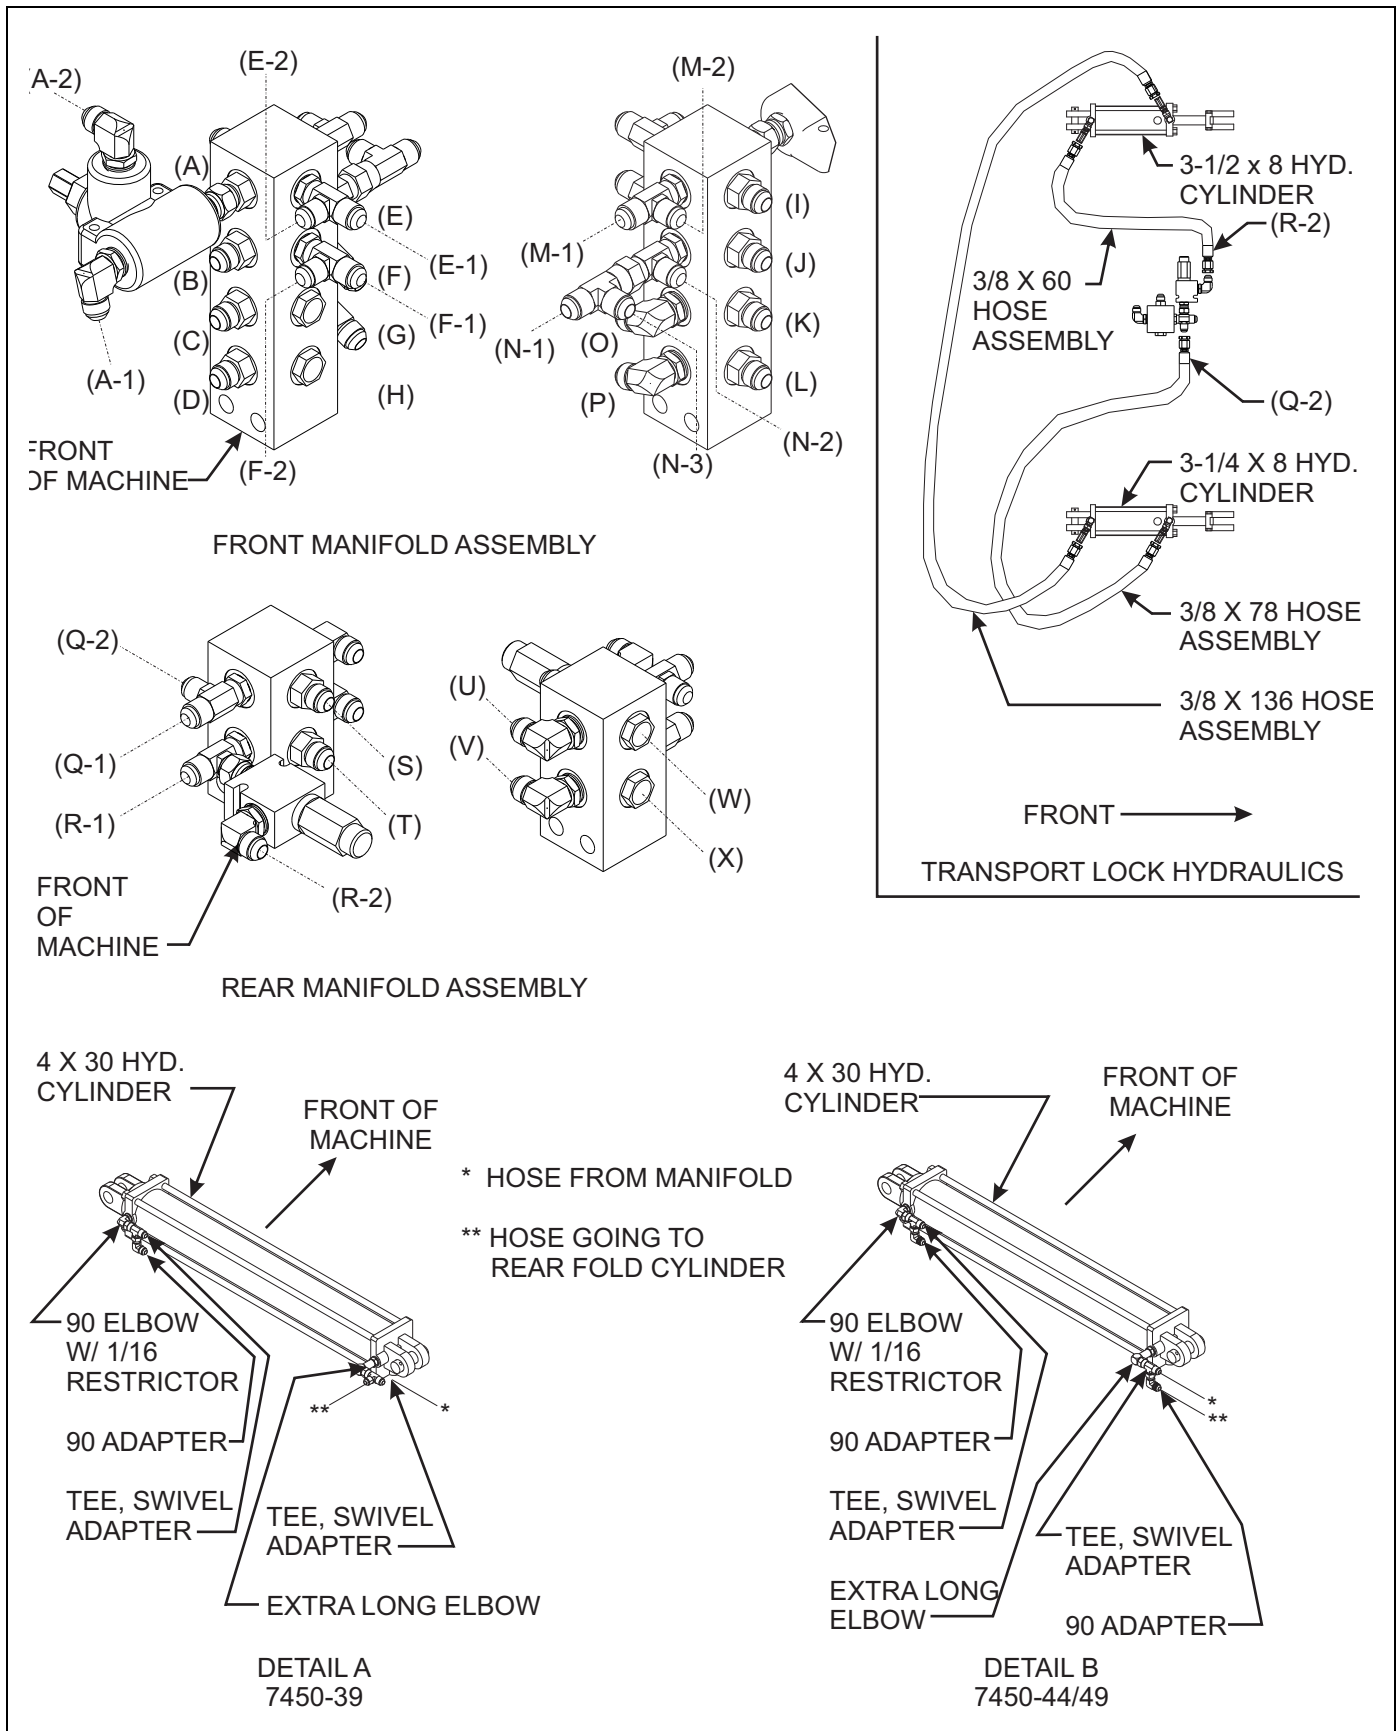

Figure 3-17: Transport Lock and Fold Hydraulic Assembly Details
Refer to Figure 3-17 for transport lock hydraulic diagram, front and rear manifold drawings, and fold cylinder detail for all models.
3. Using 1-1/4 x 6-1/8 fold pin (7450-39') or pins provided with cylinder (7450-44'/7450-49'), attach base of outer wing fold cylinder to mount on inner wing (See **Figure 3-17**.)